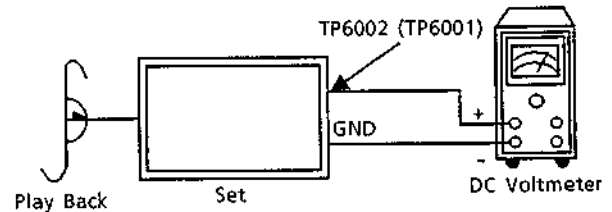

Figure 16
- (1) Make the connections as shown in figure 16 and turn the power ON.
- (2) Insert a blank tape into deck A and adjust VR6061 so that the TP6002 output is 2V DC when the tape is played back.
- (3) Insert a blank tape into deck B as in (2) for deck A, and adjust VR6062 so that the TP6001 output is 2V DC when the tape is played back.
- (4) Insert test tape AC712 into both decks and make sure that the TP6002 and TP6001 outputs are 0.6V or less (preferably lower) when the tape is played back.